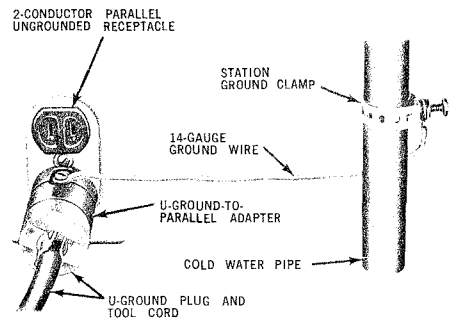

Fig. 7 — Ungrounded 2-Conductor Receptacle
- Attach, between ground terminal on adapter and grounded object selected, a ground wire (See Fig. 7), making certain a good metallic connection at both ends is accomplished.